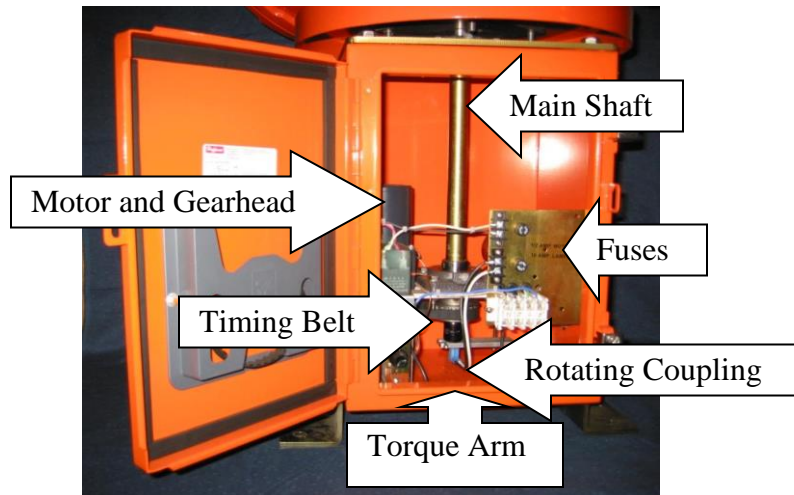

Figure 4
The HBM 320 has a 10 amp lamp fuse and a ½ amp motor fuse. The fuses are located on the Control Panel, directly inside the door of the chassis, as shown in Figure 4. Spare fuses are located in the pocket inside the chassis door.
2. Unplug the two wires from the rotating coupling (see Figure 4).
2. Remove the two wires from the bottom of the rotating coupling (see Figure 4).
2. Loosen the four cap screws that hold the motor in place, and slide the motor to the right (see Figure 4).